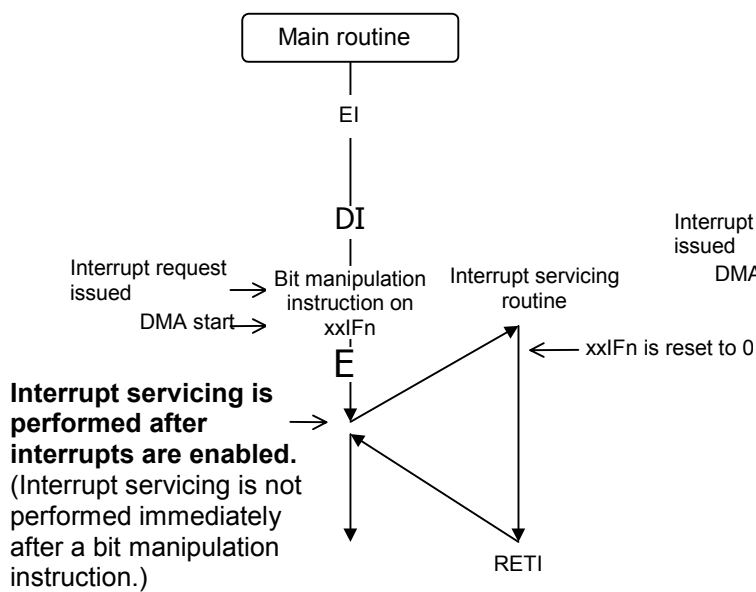

Figure 3-3. Workaround (1)
- (1) Issue the DI instruction before executing a bit manipulation instruction on the interrupt request flags (xxIFn) of an interrupt control register (xxICn) by software. Then issue an EI instruction afterwards, and do not execute interrupt servicing immediately after the bit manipulation instruction. (See Figure 3-3.)